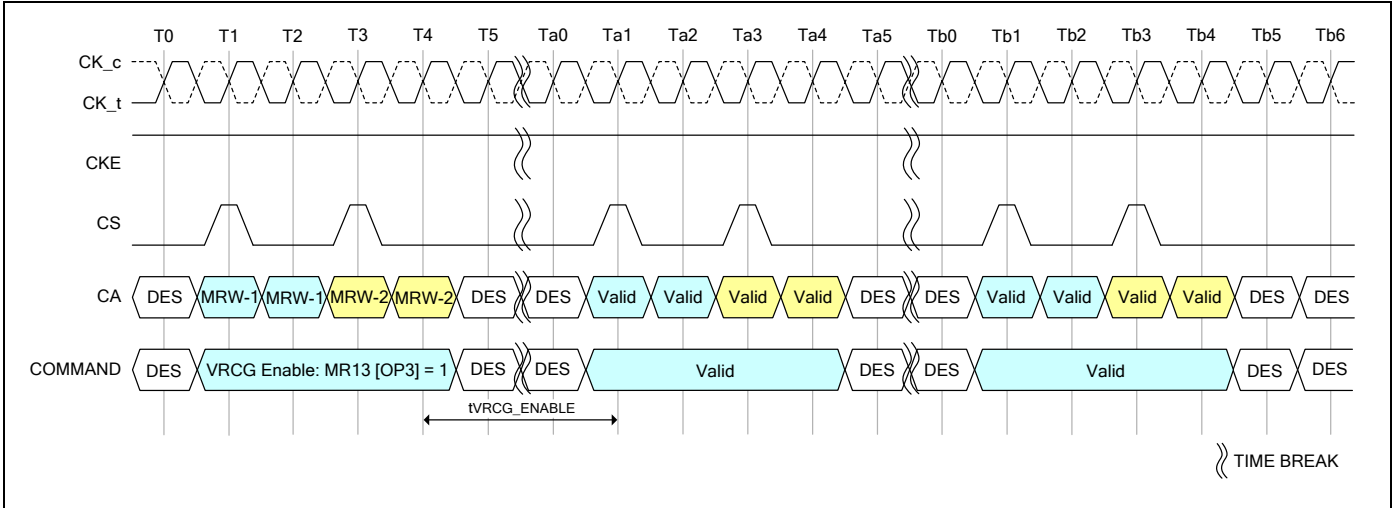

Figure 82 - VRCG Enable timing
LPDDR4 SDRAM VREF current generators (VRCG) incorporate a high current mode to reduce the settling time of the internal VREF(DQ) and VREF(CA) levels during training and when changing frequency set points during operation. The high current mode is enabled by setting MR13 OP[3] = 1. Only Deselect commands may be issued until tVRCG_ENABLE is satisfied. tVRCG_ENABLE timing is shown in Figure 82 and Table 48.